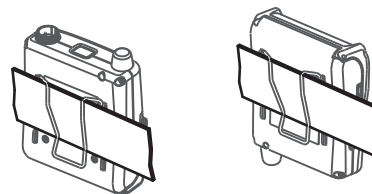

Fig. 30
- (A) Wearing the bodypack transmitter, Fig. 30.